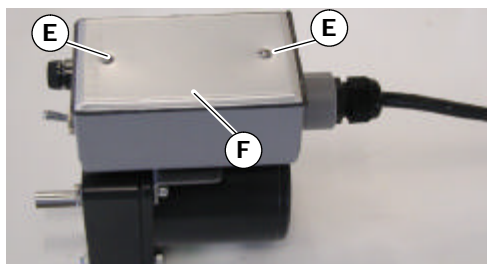

Figure 21
**14.** Insert wires into enclosure and attach cover (F of Figure 21) with screws (E) taking care not to pinch wires with cover.